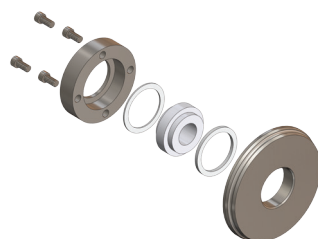

Figure No. 8
6. Assemble 'DG' seal back plate. (see figure no.8)